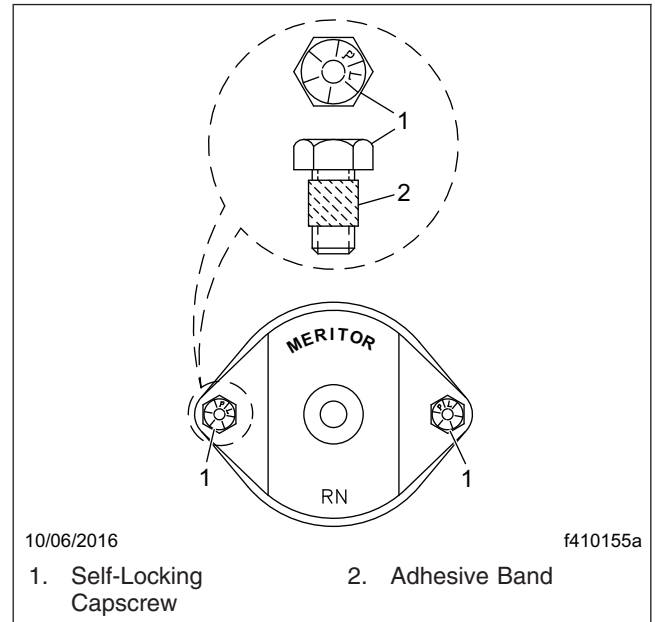

Fig. 1, Arvin Meritor U-Joint Fasteners for Bearing Caps
2. For U-joints with bearing caps, tighten bearing-cap capscrews 43 lbf·ft (49 N·m). See Fig. 1.